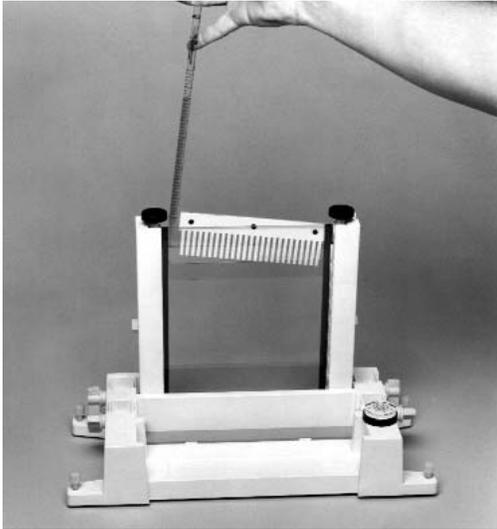

Fig. 6.6. Pouring a SSCP gel.
3. Insert a comb in the gel sandwich and tilt it so the teeth are at a slight angle. This will prevent air from being trapped under the comb teeth while pouring the gel solution (Figure 6.6).